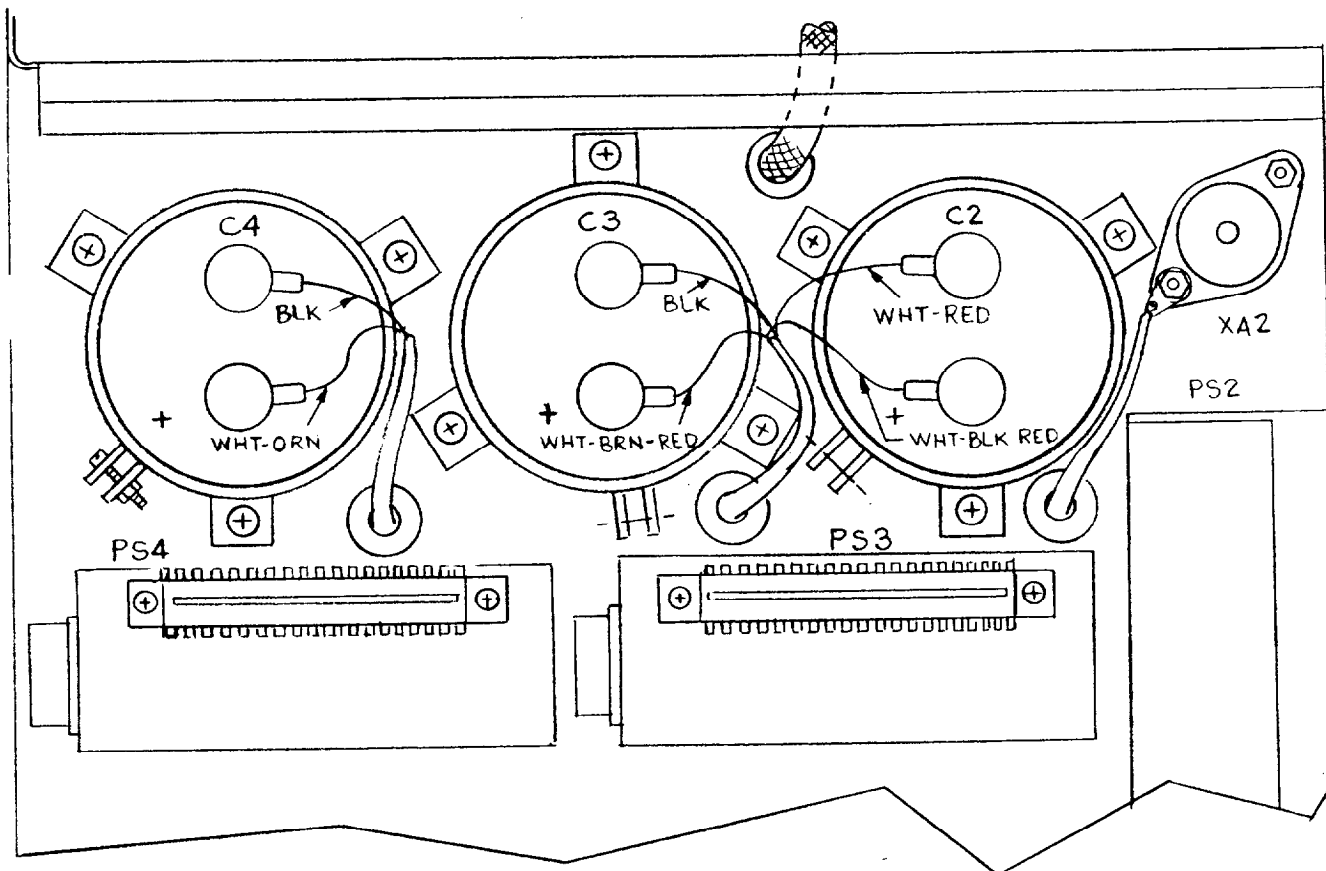

FIGURE 10
2. Place leads onto terminals of capacitors as shown in wiring diagram (Figure 10) secure with screws and replace terminal caps.